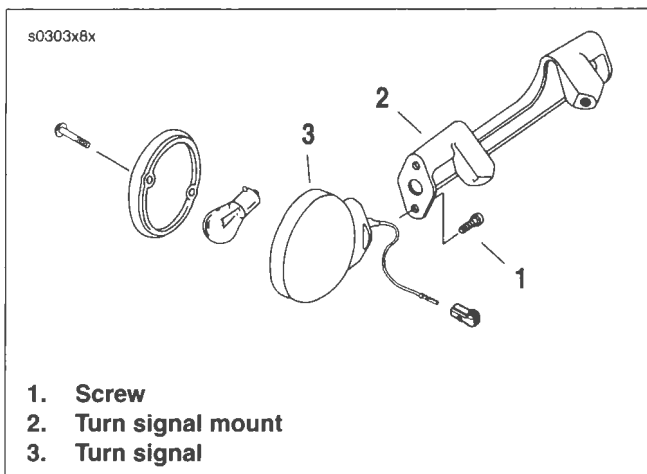

Figure 8-63. Rear Turn Signals: FLSTC
- a. For FLSTC models, see Figure 8-63. Remove the screw (1) to detach turn signal from mount (2).